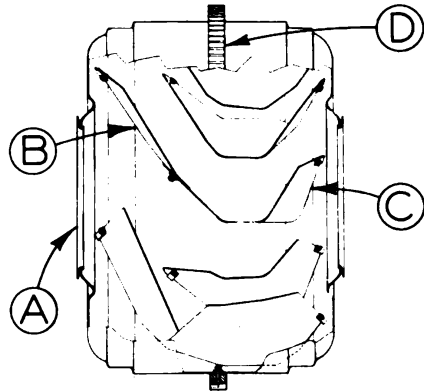

FIGURE 3
BUCKETS: (C) & (B) (Figure 3, Page 62)